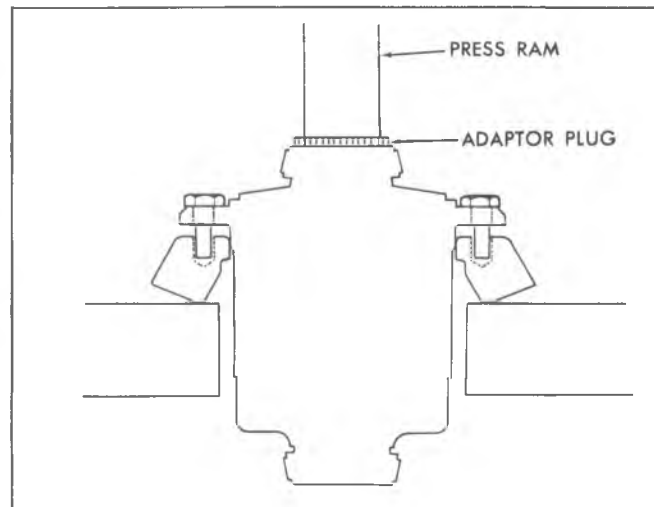

Fig. 5B-Ring Gear-to-Case Installation
3. Liberally coat the differential case pilot with hypoid lubricant. Pre-align ring gear and differential case bolt holes, and press on adaptor plug J-8107-4 to initially start ring gear on case pilot, as shown in figure 5B.